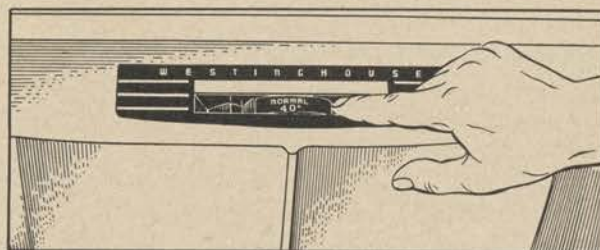

Figure 86. Refrigerator temperature control.
d. REFRIGERATOR. (1) *Controls.* The refrigerator controls consist of a temperature control and control switch. The temperature control for the refrigerator is located under the cabinet door inside the refrigerator cabinet.
(2) *Starting refrigerator when generators are operating.* Set refrigerator control switch on main generator control panel at ON position. Connect refrigerator plug to wall receptacle. Make sure temperature control dial (fig. 86) is not on OFF position.